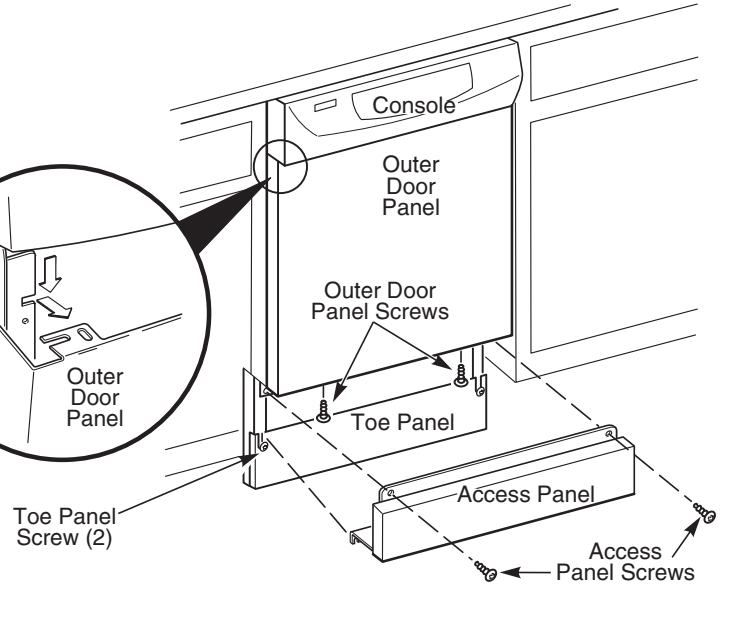

Figure 4
- With dishwasher door closed, loosen the two (2) toe panel screws, but do not remove them.
- Remove two (2) screws from top of access panel. Pull top of access panel away from door, lift up and remove. See Figure 4.
- Remove two (2) screws from bottom of outer door panel.
- Refer to detail inset in Figure 4. Slide outer door panel downward until slots in door panel align with slots in door frame, then pull door panel straight off.
- Refer to detail inset in Figure 4. Align slots in outer door panel with slots in door frame, push door panel in and slide upward. Install two (2) screws at bottom of outer door panel. Be sure that door insulation is installed in unit.
- Slide access panel slots down over toe panel screws. Press top of access panel against dishwasher and tighten two (2) screws at top of panel.